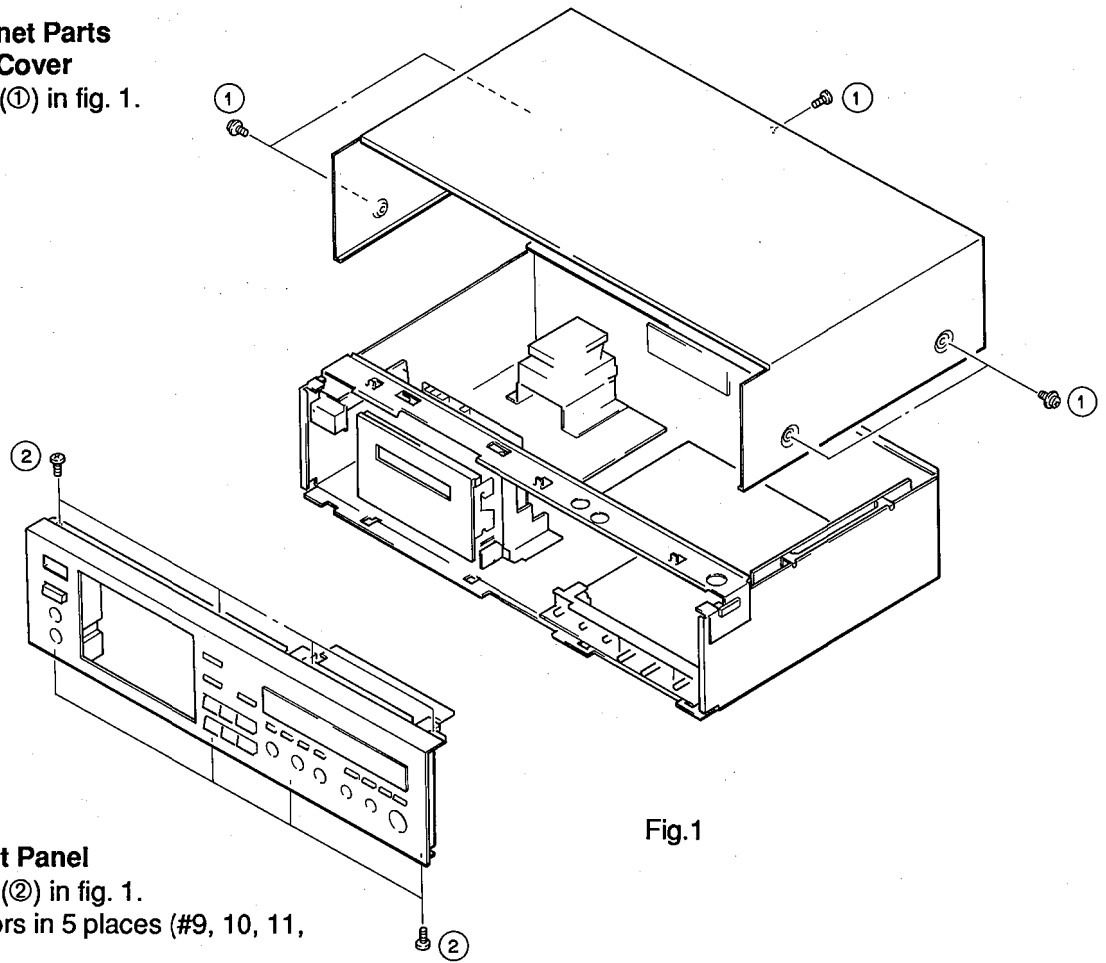

Fig.1
- a. Remove the 5 screws(①) in fig. 1.
- a. Remove the 8 screws(②) in fig. 1.